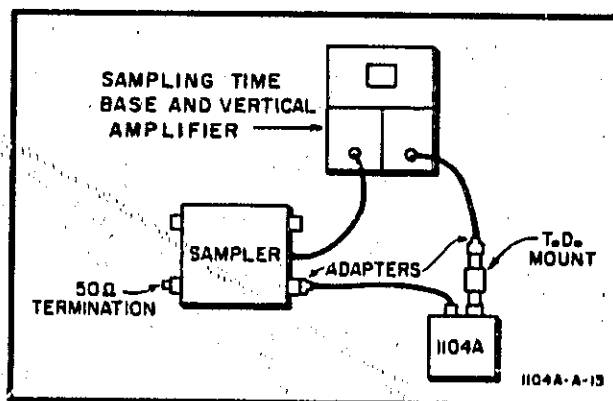

Figure 7. Frequency Adjustment
22. This adjustment sets the free-run frequency of the Trigger Countdown to 100 MHz. Connect the equipment as shown in Figure 7. Adjust STABILITY throughout the range of oscillation, and set the control to the center of this range. Then adjust spacing of the turns of L5 so the frequency of oscillation is approximately 100 MHz or has a period of 10 ns. L5 consists of two inches of No. 22 wire which is formed into approximately two turns. After repair and replacement of L5/R8/C10 it may be necessary to relocate the connecting point of R8 and C11 on the coil L5 to adjust frequency to 100 MHz. This tap is typically located up one turn from the board connection.